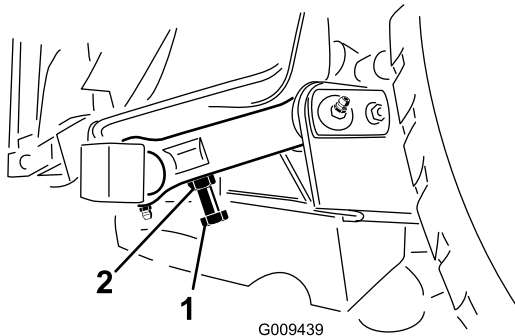

Figure 28
3. To adjust distance, locate adjuster bolt on rear pivot link of cutting unit (Figure 28). Loosen jam nut on adjuster bolt. Loosen or tighten adjuster bolts until 0.38-0.62 inch (10-16 mm) clearance is attained, then tighten jam nut.